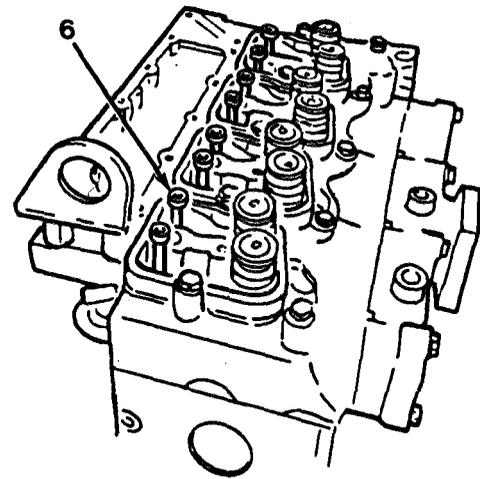

Figure 6-2
4. Using a 13 mm socket, remove four cap-screws (3) from rocker shaft support assemblies (5).
5. Using an 18 mm socket, remove four cap-screws (4) and rocker shaft support assemblies (5) from cylinder head.
6. Remove eight push rods (6, Figure 6-2).
1. Lubricate with engine oil and install eight push rods (6, Figure 6-2) in engine.